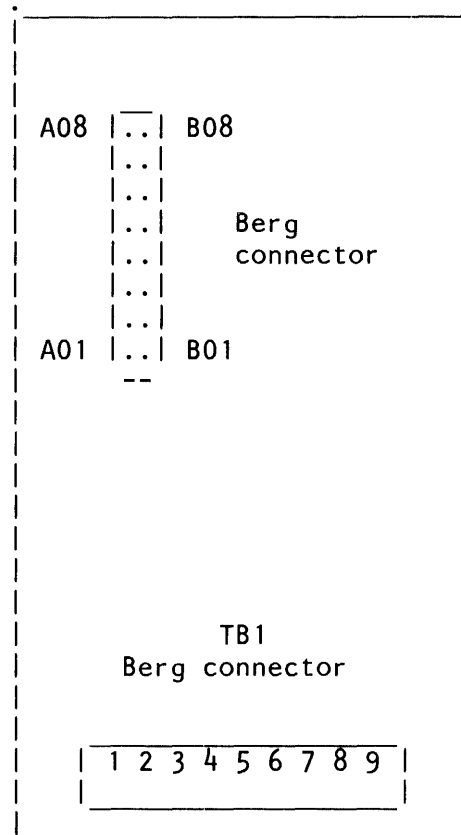

Figure 1
- For the berg connector location, see Figure 1 in this MAP.